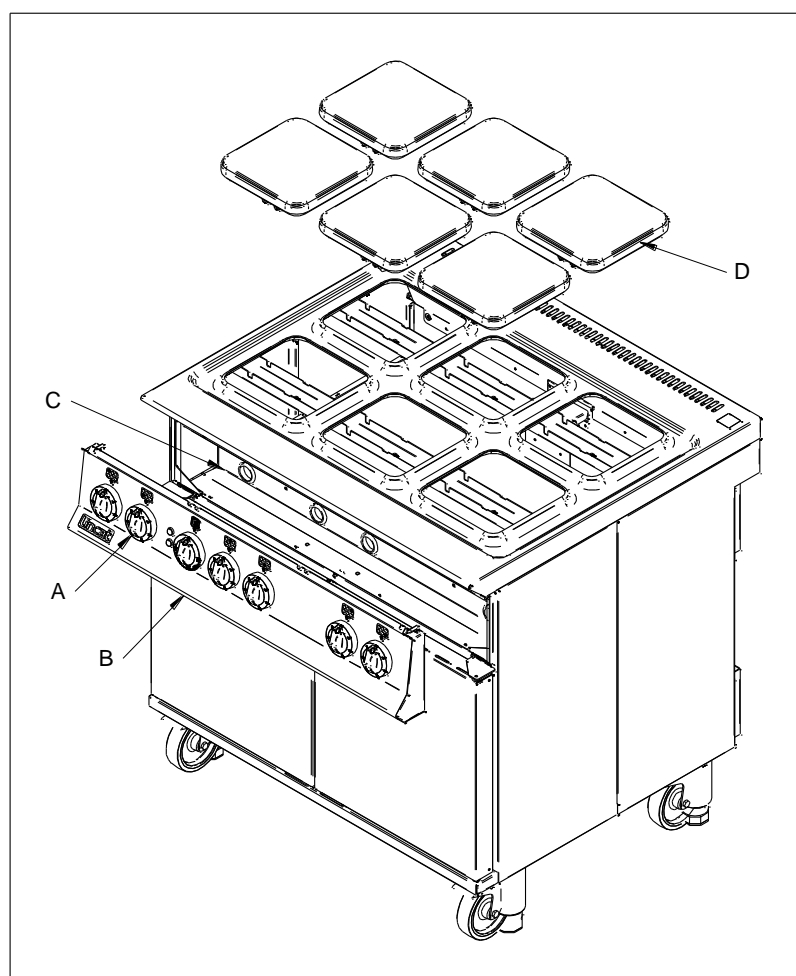

Fig 4
Replacement of some components requires removal of the fascia panel and heat shield (see Fig 4). Remove the control knobs (A) and all screws beneath the fascia (B). Be aware when lowering the fascia that electrical connections will still be made. When replacing heat shield and fascia ensure cables are not trapped.